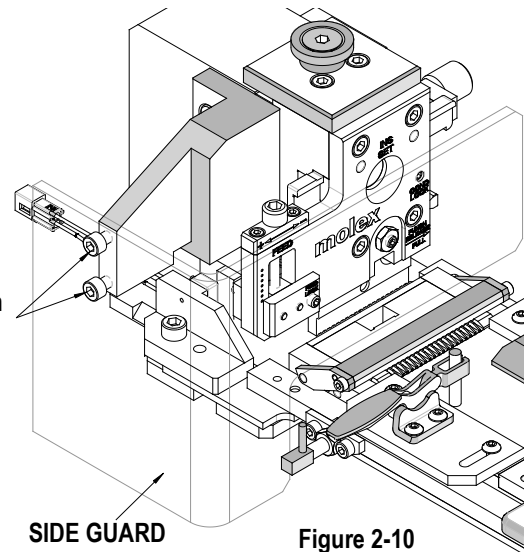

Figure 2-10
4. Install the side guard on the Crimp Module. Use the (2) M5 x12mm screws (see section 2.1) to fasten the guard on the Crimp Module. See Figure 2-10.